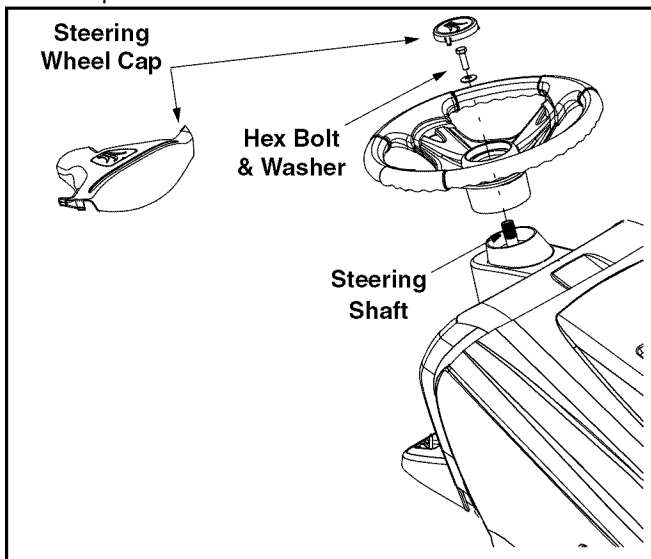

Figure 6
NOTE: *There are two different styles of steering wheel cap. See Figure 6. Styles vary by model.*
- Place the washer (with the cupped side down) over the steering shaft and secure with the hex bolt. See Figure 6.